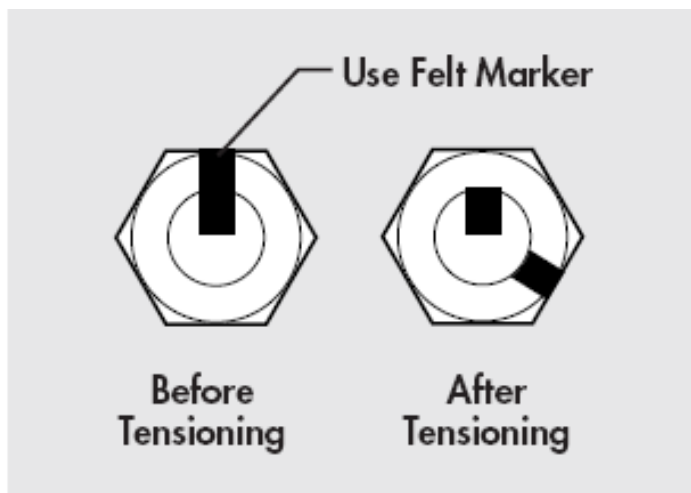

Figure 1-1a:
Step 5. Using a **Felt-Tip Marker**, mark the nuts and ends of the bolts with a straight line as shown above in **Figures 1-1a (Bolts shorter than 4 diameters) and 1-1b (Bolts longer than 4 diameters)**
- **Moved 1/3 TURN (120°)** as shown in **Figure 1-1a, shorter than 4 diameters** (“After Tensioning”)